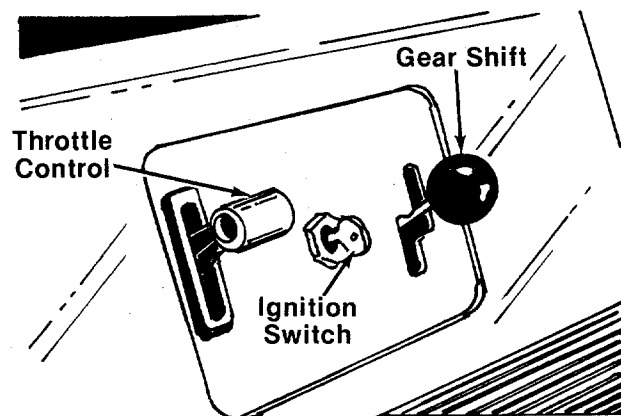

FIGURE 19.
be operated from 3/4 to full throttle when operating the cutting deck. See figure 19.
Electric Start Model—The key must be turned to the "START" position to start the engine. After the engine is running, let the key return to the "ON" position. Turn the key to the "OFF" position to stop the engine. Remove the key when the rider is not in use. See figure 19.
The shift lever is located on the left hand side of the console and has three positions, "FORWARD," "NEUTRAL" and "REVERSE." See figure 19. The clutch-brake pedal must be depressed and the riding mower must not be moving when shifting gears. Do not force the shift lever. Release the clutch-brake pedal slightly to line up the shifting collar in the transmission. Then try to shift gears.
- b. **Electric Start Model.** Turn the ignition key to the "START" position. As soon as the engine starts, let the key return to the "ON" position. See figure 19.